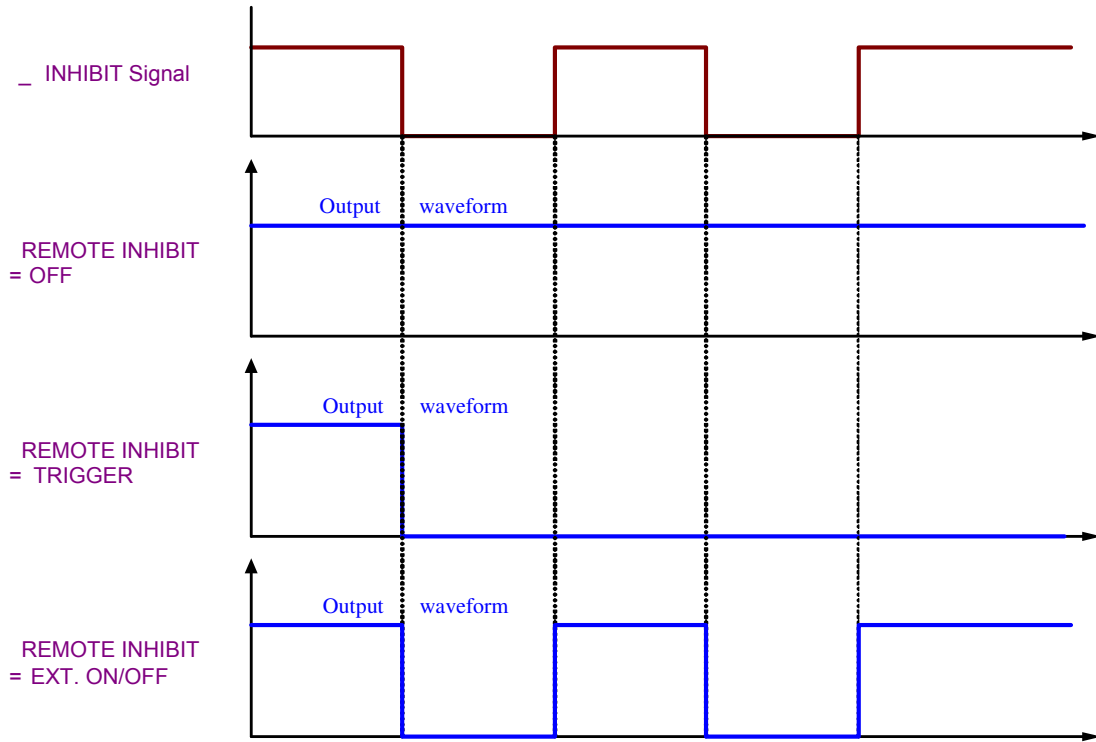

Figure A-1 Detail Actions of PIN9
- (1) PIN 1: 12V auxiliary power; see section 3.3.1.3.
- (2) PIN 2: Ground of 12V auxiliary power; see section 3.3.1.3.
- (3) PIN 3: Voltage programming; see section 3.3.1.3.
- (4) PIN 4: Current programming; see section 3.3.1.3.
- (5) PIN 5: Voltage measurement; see section 3.3.1.3.
- (6) PIN 6: Current measurement; see section 3.3.1.3.
- (7) PIN 7: SAFETY INT.LOCK, see section 3.3.5.5.
- (8) PIN 8: External trigger signal of Program mode; see section 4.1.2.2.
- (9) PIN 9: When the voltage level of this pin turns to LOW, it inhibits the output of DC Power Supply. When REMOTE INHIBIT sets to OFF, the pin is invalid and when REMOTE INHIBIT sets to TRIGGER once the low level triggers it, it equals pressing "OUTPUT" key to set OUTPUT = OFF; and when REMOTE INHIBIT sets to EXT. ON/OFF when the voltage level turns to LOW, it equals pressing "OUTPUT" key to set OUTPUT = OFF; however, when the voltage level of this pin turns to HIGH the power supply returns to normal output. Figure A-1 shows the detail actions.
- (10) PIN 10: When the DC power supply output is ON and the voltage is over VDC\_R, the pin10 DC\_ON of SYSTEM STATUS on the device rear panel will turn to HIGH. When the DC power supply output voltage is lower than VDC\_F setting, the pin10 DC\_ON of SYSTEM STATUS on the device rear panel will turn to LOW.
- (11) PIN 11: When protection occurs as described in section 3.3.5, this will turn to LOW.
- (12) PIN 12: Bit 0 of TTL signal output; see section 3.3.2.5 for detail setting.
- (13) PIN 13: Bit 1 of TTL signal output; see section 3.3.2.5 for detail setting.
- (14) PIN 14: Bit 2 of TTL signal output; see section 3.3.2.5 for detail setting.
- (15) PIN 15: Bit 3 of TTL signal output; see section 3.3.2.5 for detail setting.
- (16) PIN 16: Bit 4 of TTL signal output; see section 3.3.2.5 for detail setting.
- (17) PIN 17: Bit 5 of TTL signal output; see section 3.3.2.5 for detail setting.
- (18) PIN 18: Bit 6 of TTL signal output; see section 3.3.2.5 for detail setting.
- (19) PIN 19: Bit 7 of TTL signal output; see section 3.3.2.5 for detail setting.